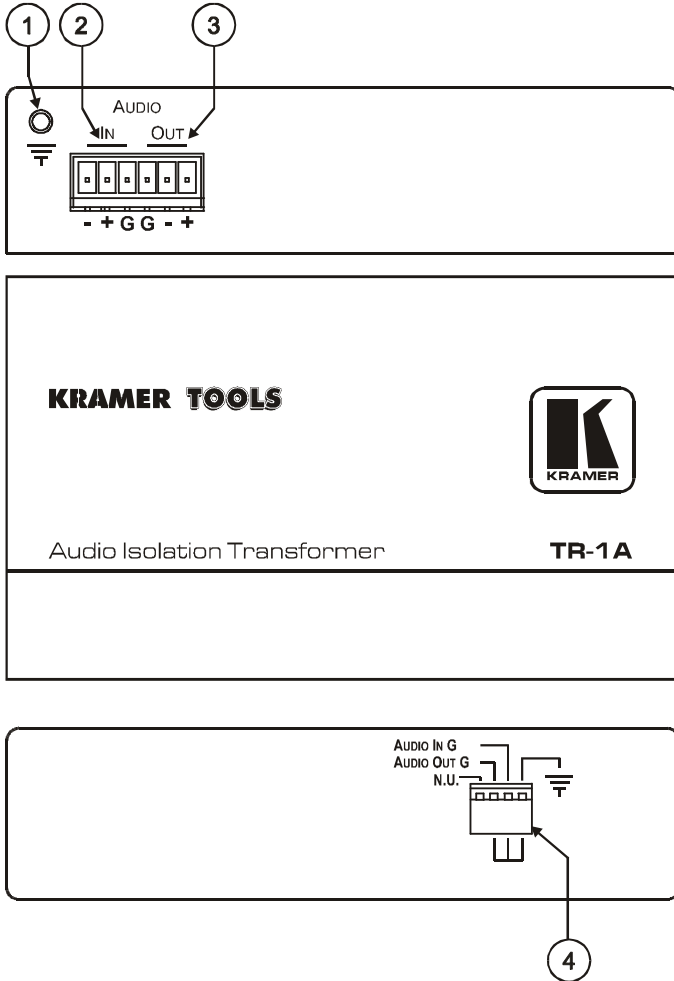

Figure 2: TR-1A Audio Isolation Transformer
- Figure 2 and Table 3 define the **TR-1A Audio Isolation Transformer**